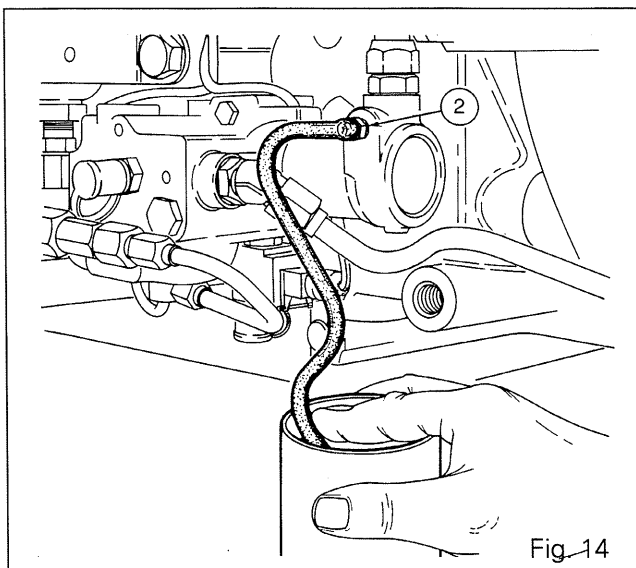

Fig. 14
102. Fit a pipe on the bleeding screw (2) as shown in Fig. 14.